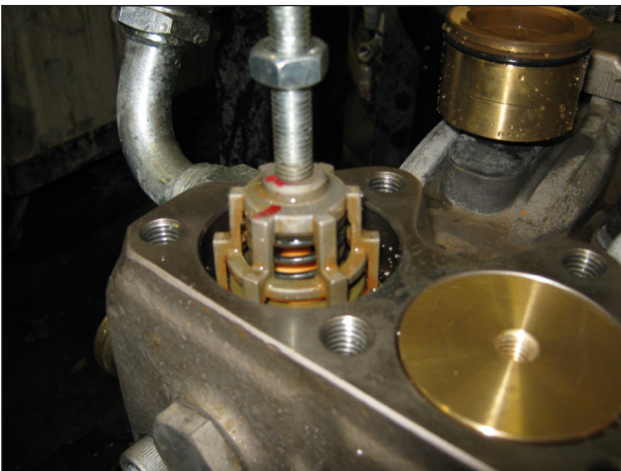

Fig. 19
- Extract the KT 36-KT40-WK8 pump suction valve units using an extractor hammer code 26019400 combined with tool code 27513600 (Fig. 19).